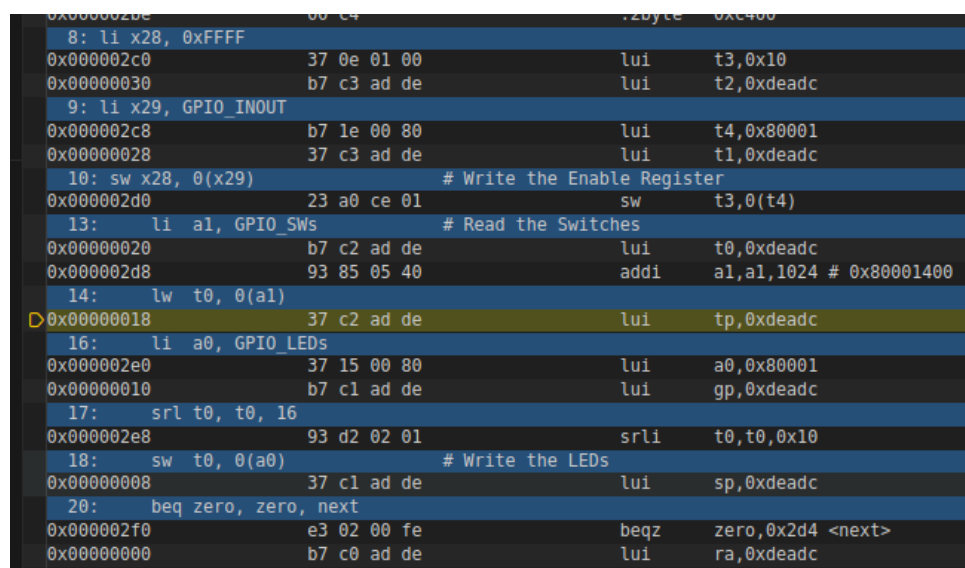

Figure 49: Catapult Studio Disassembly Window
- b. The disassembly window shows the lines of your code in blue, interspersed with the associated binary instructions and, on the left, the addresses where those instructions are stored (Figure 49). Note that you can also set breakpoints in the disassembly window and step through the individual instructions.